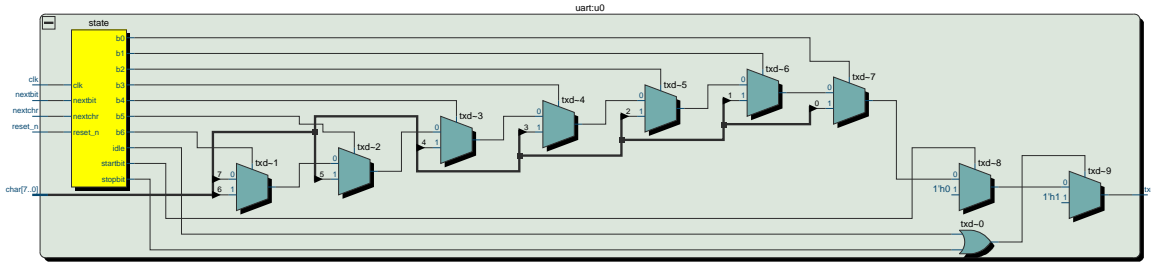

Figure 2: RTL Schematic of UART Module.
If you have followed the state machine coding guidelines the Quartus RTL netlist viewer will display the state machine as a separate yellow logic block as shown in Figure 2.
2. The RTL schematic (Tools > RTL Netlist) similar to Figure 2.